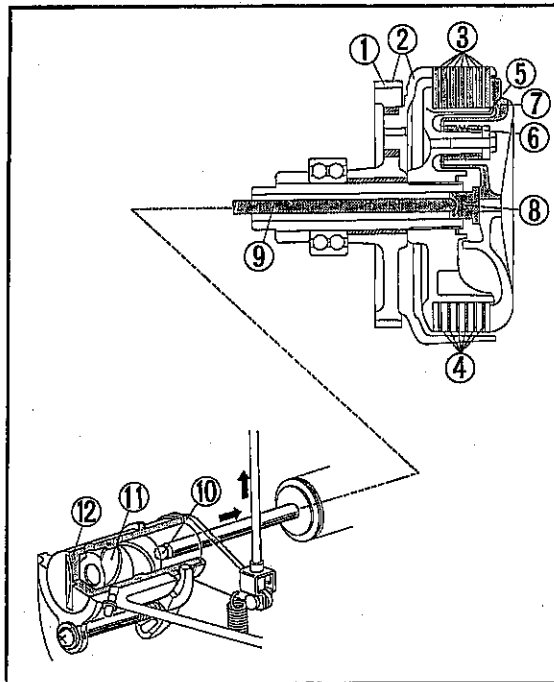

Fig. 334
| <p>Refer to Fig. 334 on page 115.</p> <p>The clutch connects and disconnects the engine from the transmission.</p> <p>As shown in Fig. 334, the clutch plates ④ ("drive plates"), which are capable of sliding axially on the clutch center ⑤, are "sandwiched" between the friction discs ③ ("driven discs") engaged in the clutch outer ②. In normal engaged condition of the clutch, the pressure plate ⑦, upon which the clutch springs ⑥ force is acting, presses the stacks of the discs and plates against the clutch outer. Under this condition, the engine power is transmitted through the primary drive gear ①, clutch outer, friction discs, plates and clutch center to the transmission main shaft. As the clutch lever is squeezed to disengage the clutch, the clutch lifter ⑩, connected to the clutch cable, is rotated and forced out. This clutch ball force is transmitted through the #10 steel ball ⑩, clutch lifter rod ⑨ and clutch lifter joints piece ⑧ to the clutch pressure plate to compress the clutch springs producing clearance between the friction discs and plates. Now the face pressure on the friction surfaces of the power transmitting parts is reduced to zero, resulting in clutch disengagement.</p> | <p>Refer to Fig. 335 on page 115.</p> <p>As shown in the figure, the clutch plates ④, which are capable of sliding axially on the clutch center ⑤, are sandwiched between the friction discs ③ engaged in the clutch outer ⑦. In normal engaged condition of the clutch, the pressure plate ⑩, upon which the clutch springs ⑥ force is acting, presses the stacks of the discs and plates against the clutch outer. Under this condition, the engine power is transmitted through the primary drive gear, clutch outer, friction discs, plates and clutch center to the transmission mainshaft. As the clutch lever is squeezed to disengage the clutch, the clutch arm connected to the clutch cable operates and the clutch lifter cam ① rotates to cause the clutch adjusting lever ② to be forced against the clutch lifter rod ③. This force is transmitted through the clutch lifter plate ④ to the clutch center, producing clearance between the friction discs and plates. Now the face pressure on the friction surfaces of the power transmitting parts is reduced to zero, resulting in clutch disengagement.</p> |